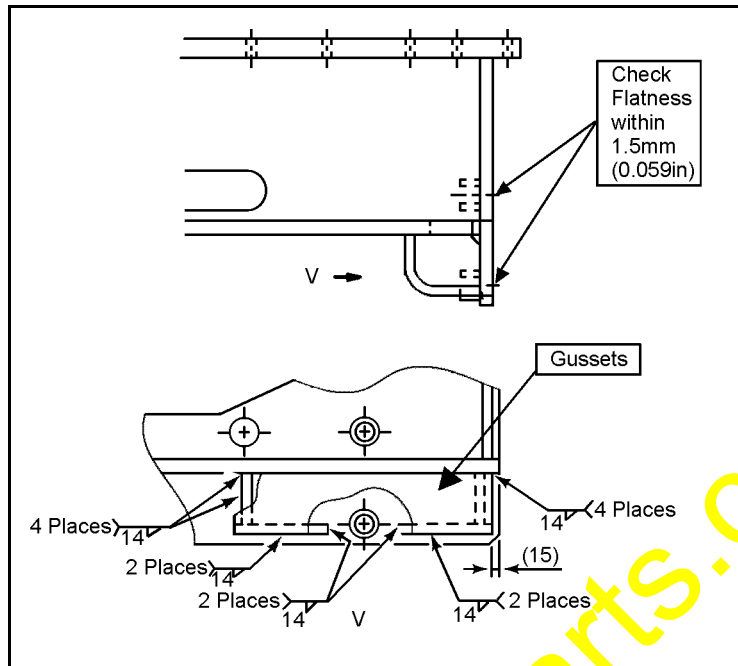

Figure 4 Welding Diagram
4. Prior to relieving pressure and referencing Figure 4, reweld box gussets to counterweight mounting plate.